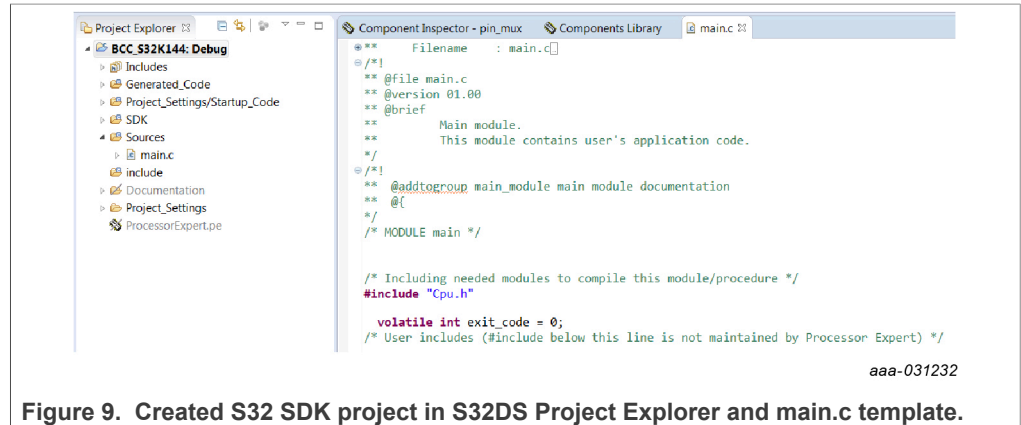

Figure 9. Created S32 SDK project in S32DS Project Explorer and main.c template.
- Figure 9 shows the Project Explorer panel and a part of the `main.c` content after the creation of a new project. The project includes only startup code and minimal driver set from S32K144 SDK.